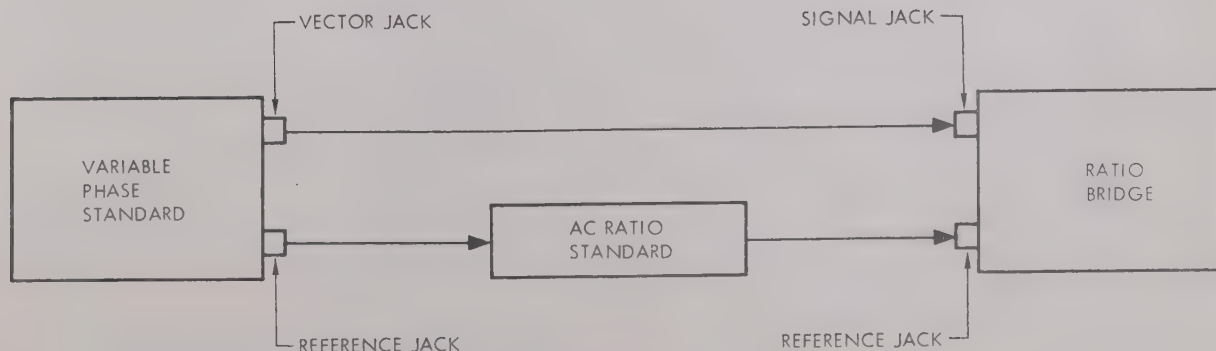

Figure 4-1. Calibration Test Setup
- a. Interconnect equipment as shown in figure 4-1.